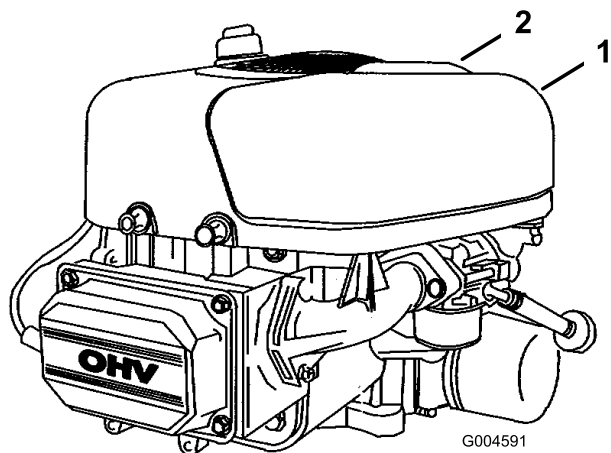

Figure 21
4. Pull up on the air cleaner cover handle and rotate it toward the engine (Figure 21) and remove the air cleaner cover.